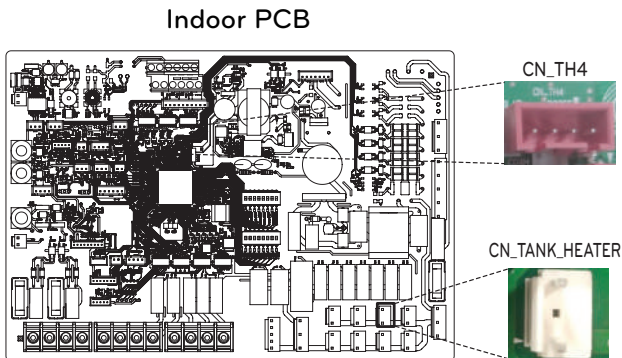

Fig. 1
- Step 4.** Plug the white connector to CN_TANK_HEATER on Main PCB. (Fig. 1/3)